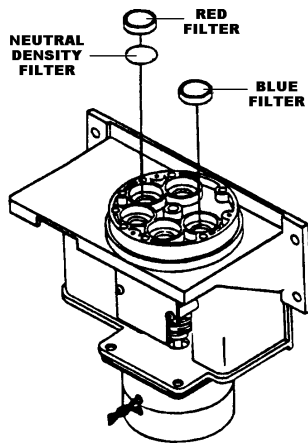

Figure 5-13. Neutral Density Filter Placement
- c. Place the Neutral Density Filter between the Red Filter and the Fiber Optic Bundle. See **Figure 5-13**.